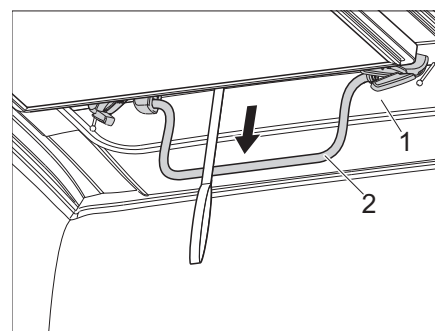

Fig. 51 Pulling the pop-up roof downwards
- Looking towards the back, pull the pop-up roof (Fig. 51,1) by the bar (Fig. 51,2) **slowly** downwards and observe whether the cloth bellows drops cleanly inwards.